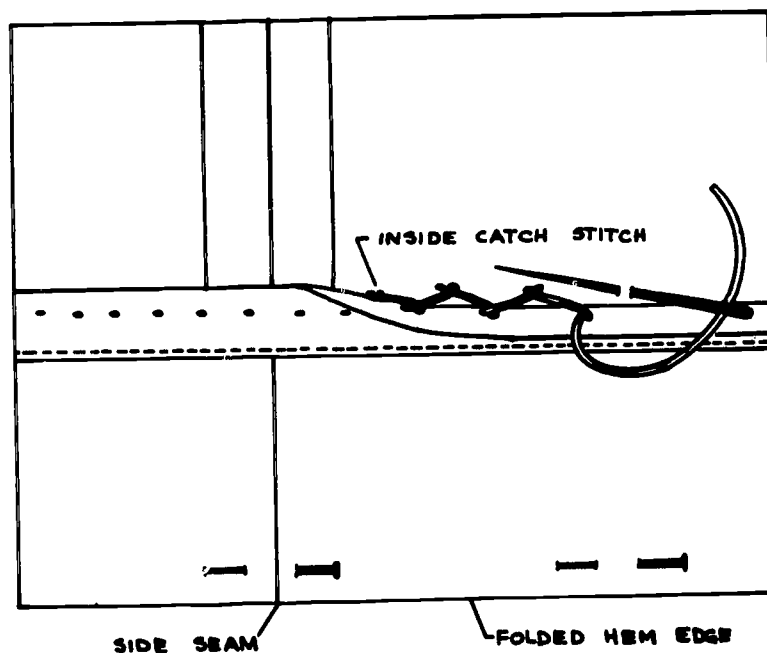

Figure 14.
2. An inside catch stitch is recommended for fabrics that stretch because the stitch will give with the stretch (see Figure 14).